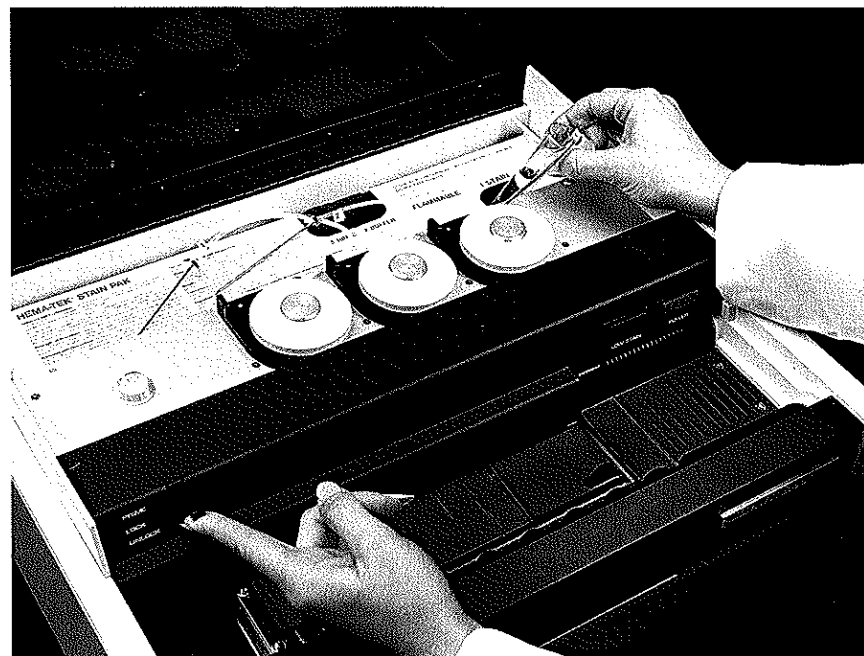

Figure 6-2
2. Place the stain cannula, with tubing attached, into a small container of methanol and lift the operating lever to PRIME (Figure 6-2). Holding the lever in this position, continue to pump methanol through the stain tubing until it is thoroughly rinsed (clear solution appears on the platen). Carefully wipe the methanol from the platen with a soft, disposable tissue. **Wipe from right to left only.**